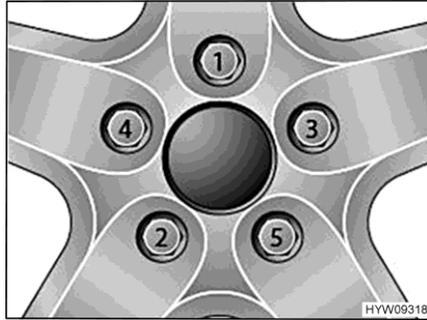

Fig. 169 Tightening the wheel nuts or wheel bolts cross-wise
- Tighten the wheel nuts or wheel bolts in the order shown in Fig. 169. In order to do this, use a torque wrench and comply with the specified tightening torque (see section 13.6.2).
- Check regularly that the wheel nuts or wheel bolts are firmly seated. Re-tighten the wheel nuts or wheel bolts of a changed wheel after 50 km (30 miles). While doing so, proceed in the order shown in Fig. 169.
- When using new or newly painted rims, re-tighten the wheel nuts or wheel bolts once again after approx. 1,000 to 5000 km (600 miles to 3,000 miles). While doing so, proceed in the order shown in Fig. 169.
- ▷ Tighten the wheel nuts or wheel bolts cross-wise (Fig. 169).